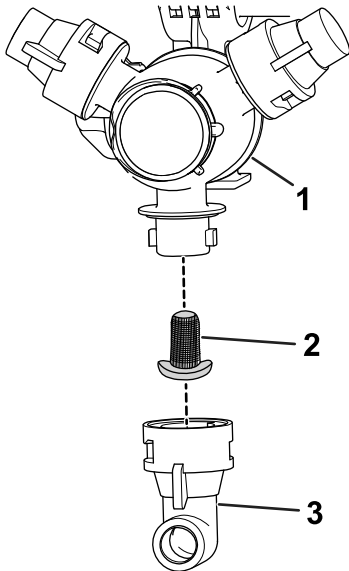

Figure 106
2. Remove the nozzle from the spray turret (Figure 106).
3. Remove the old nozzle filter (Figure 106).
4. Install the new nozzle filter (Figure 106).
5. Install the nozzle onto the spray turret (Figure 106).